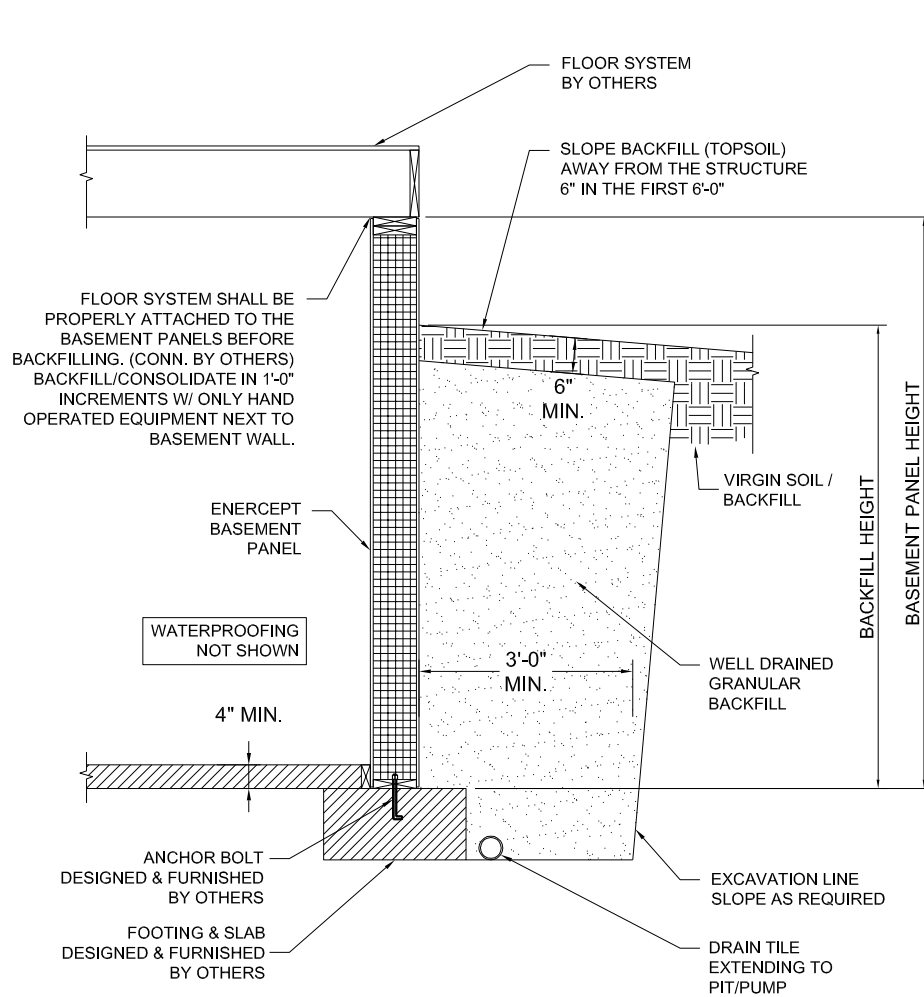
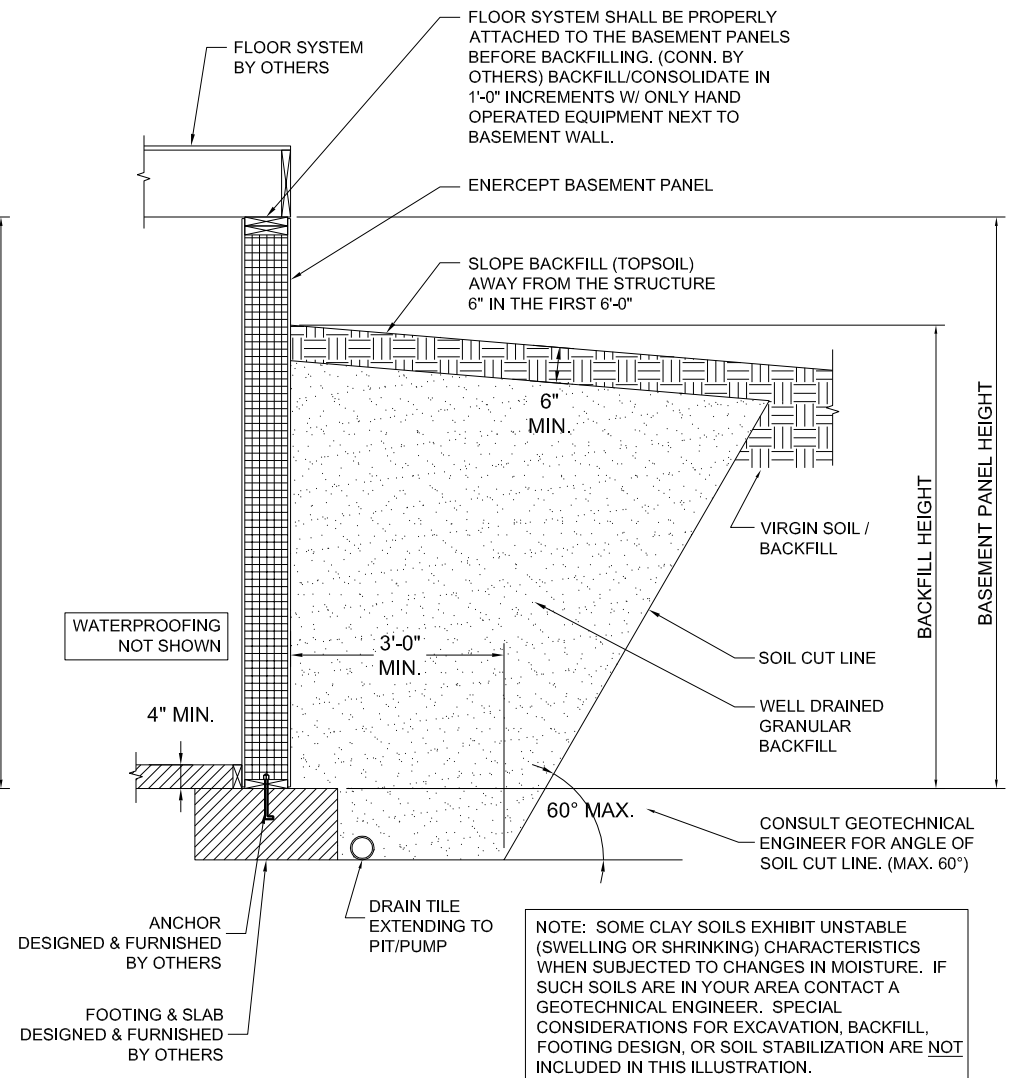

FIGURE 1: NON- EXPANSIVE SOILS
FIGURE 2: EXPANSIVE SOILS
5. See Figure 1 & Figure 2 of the following page for backfill requirements. Consult a local geotechnical engineer for recommendations and to differentiate between expansive and non-expansive soils.